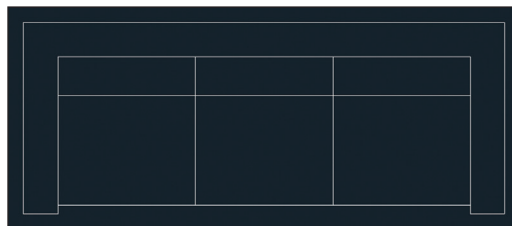

FIGURE 9.6 Redesigned sofa drawing
12. Press the spacebar to repeat the FILLET command. Click the outer line on the left arm of the sofa and then click the top back line. The sofa redesign is complete (see Figure 9.6).
Open `Sofa2.dwg` (see Figure 9.6).